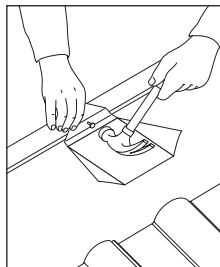

Fig. 2
- 4 Fold up and secure the underlay as shown (Fig. 2).